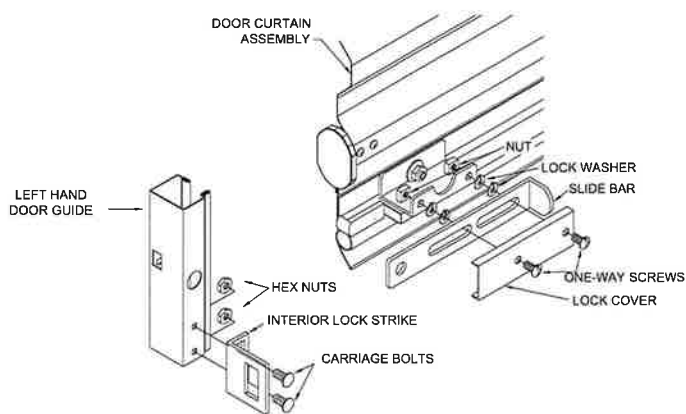

Figure 13.
12.2 Assemble components as shown in Figure 13, noting that two (2) high collar lock washers are placed over each 1/4" one-way screw to allow the lockbar to slide freely.